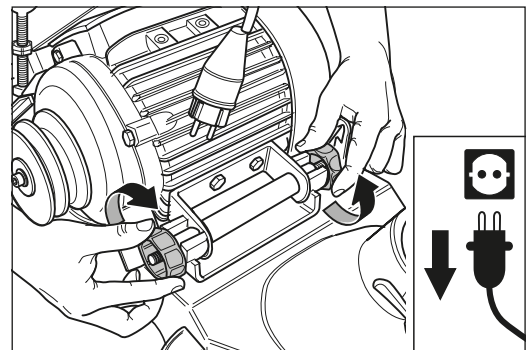

Fig. 99 Tighten the two motor nuts.
- 7 Tighten the two motor nuts (fig. 99).